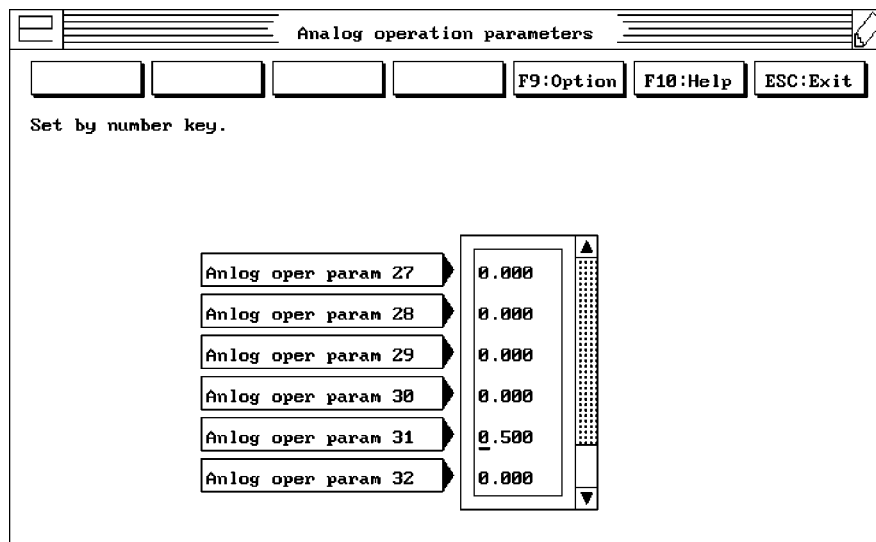

Figure 27
3. Select AP1 to AP32 (Analog Operation Parameters). Using the arrow keys, scroll down to **Anlog oper param 31** and select it (Figure 27).